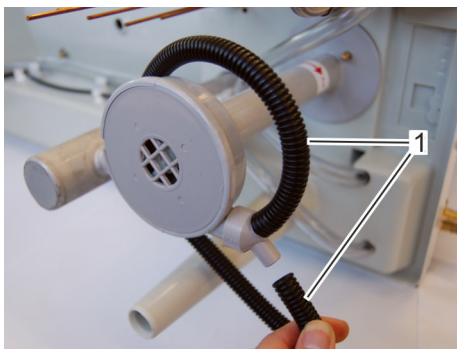

Fig. 46: Removing the pump hoses
4. ➤ To collect any possible residual water, place a suitable container under the pump hoses (Fig. 46/1).